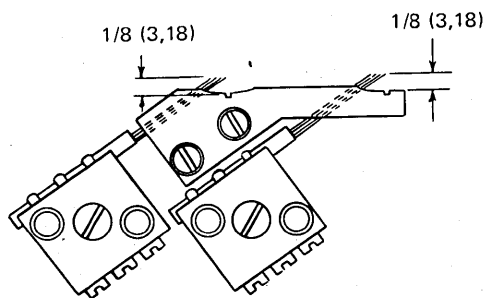

Figure 4-79. Carriage-Tape Brush Projection
1. Position the tape brushes for a 1 in.  $1 + 1/32 - 0$  in. (25, 4 + 0, 79 mm) projection from the brush holder (Figure 4-79). Hold the range of adjustment as close as possible because of possible difficulties in timing the stop brushes to the E1 emitter.